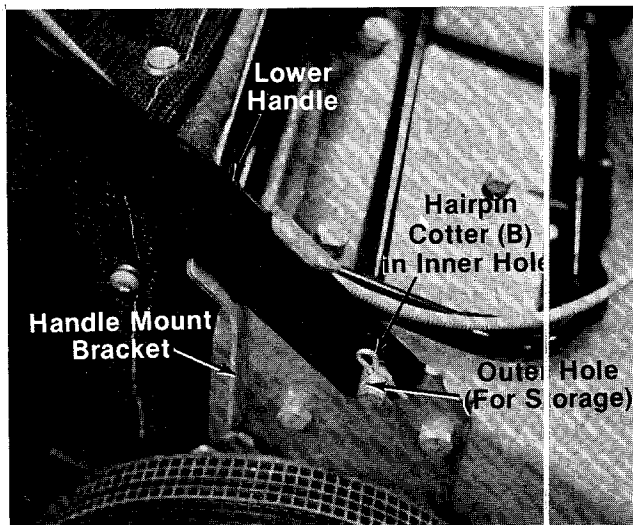

FIGURE 3.
- D (2) Hex Nuts 5/16-18 Thread
- E (1) Curved Head Carriage Bolt
- F (2) Cable Ties
- G (7) Truss Head Bolts 3/8" Long
- ← H (7) External Lock Washers
- I (7) Hex Nuts #10-24 Thread
- J (2) Cotter Pins
- K (2) Tubing Connectors
3. Attach the lower handle by placing the bottom holes in the lower handle over the weld pins on the handle mount brackets. Make certain the instruction label on the lower handle can be read from the operating position. Secure with hairpin cotters (B) in inner holes on weld pins. See figure 3.